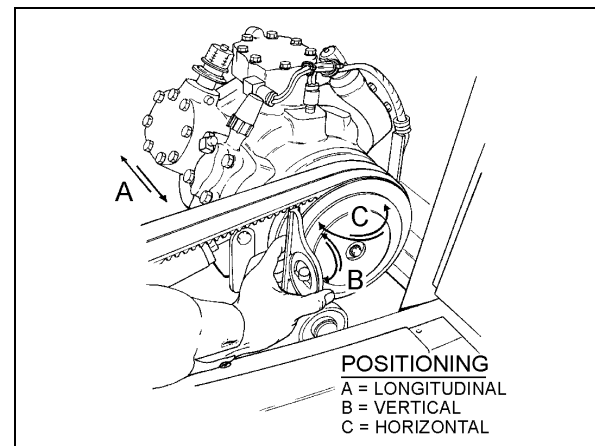

FIGURE 24: COMPRESSOR ALIGNMENT
1. Rest an extremity of a straight edge of approximately 46 inches (117 cm) against the upper part of the outer face of crankshaft pulley, positioning the other end close to the compressor clutch pulley (Figs. 24 & 25).
Rest a short "angle and level indicator" on the outer side face of the crankshaft pulley, adjust the level indicator inclination at 0° and check if the compressor pulley is at same angle (Fig. 24). If it is not the same, shim under the appropriate pillow block in order to obtain the correct angle.